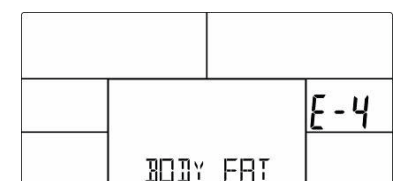

Fig. 26
- + E-4: The value for body fat percentage and/or BMI is less than 5 or more than 50 (Fig. 26)